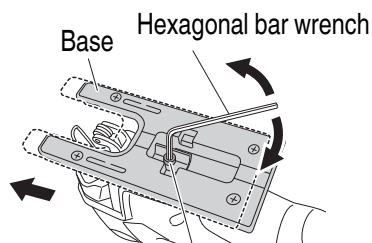

Fig. 12
- (1) Loosen the base bolt by hexagonal bar wrench attached on base. (Fig. 12)
- (2) Move the base fully forward (Fig. 12), and tighten the base bolt again.